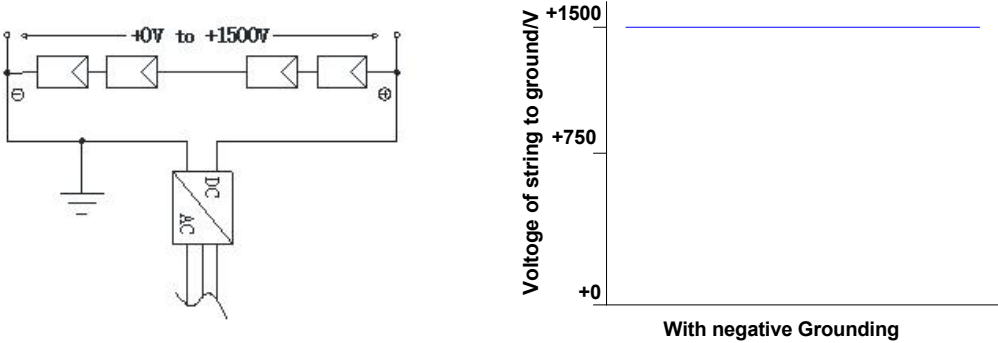

Figure 7 Schematic diagram for grounding potential of the inverter
7.5.6 If the module is used in high-temperature and high-humidity environment, Bluesun solar suggest the customer configure the inverter which allows negative grounding and contains isolation transformer (as shown in figure 7).